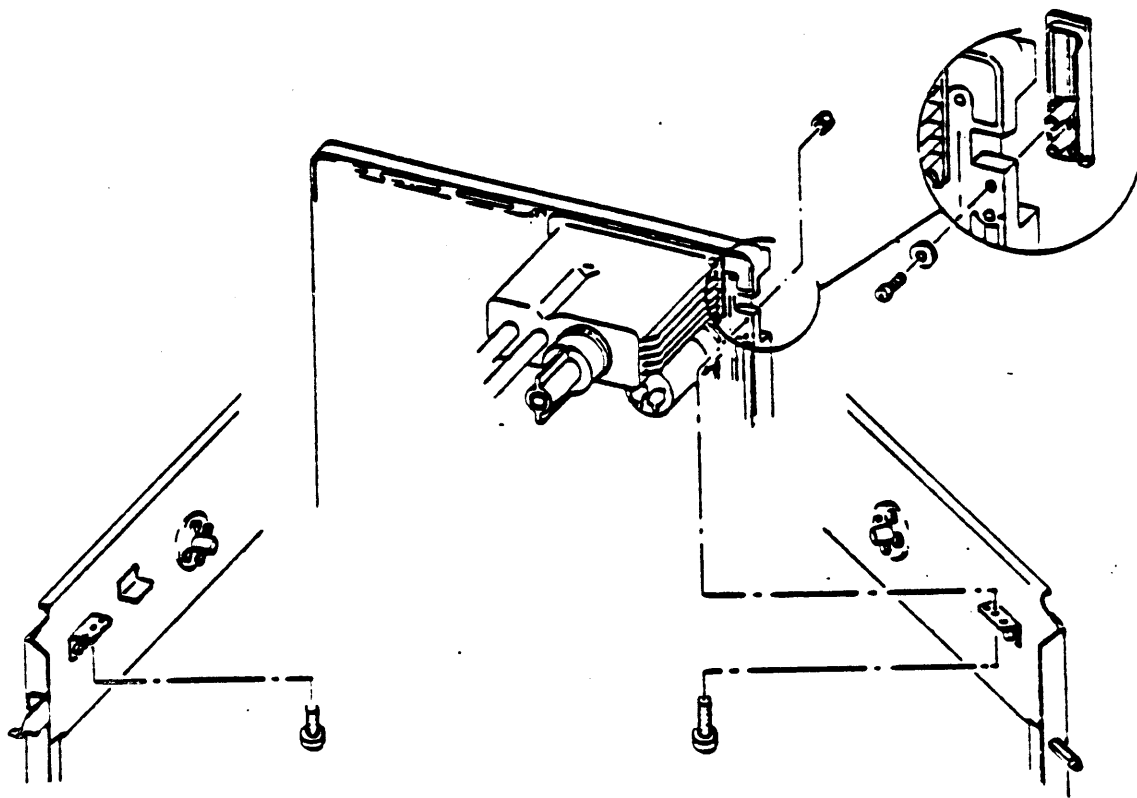

Figure 3-19. Tape Deck Shipping Screws
14. From the underside of the tape deck, remove the two slotted hex head screws (one on left side and one on right side) passing through the angle brackets into the tape deck. See figure 3-19.
20. Remove the hinge cover kit, P/N 77023062, taped to the manual packet in the bottom of the cabinet and attach the hinge block cover to the top of the tape deck with two #6-20 x .75 inch self-tapping screws and flat washers. See figure 3-19.